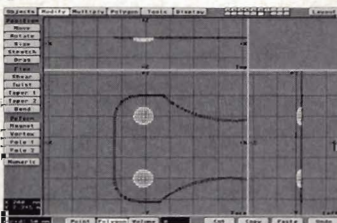
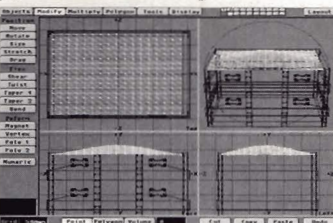

Figure 3
Figure 4
Now lasso the bottommost points with your mouse. Press (c) to copy, then (2) to go to layer 2. Finally, press (v) to paste the points down in layer 2 (Figure 3). Make sure you are in Layer 2. Press (Alt 1) to place Layer 1 in the background layer while still keeping Layer 2 in the foreground or working layer. Move each point individually so that the points intersect with the curve that we drew in layer 1 (Figure 4). *Note: Points are selected for clarity only.*